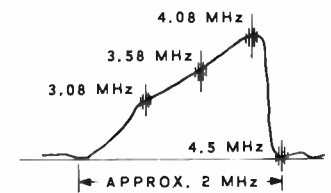

Figure 4-6
- ( ) Adjust L402 for the response curve shown in Figure 4-6. (NOTE: The 3.58 mc marker from the TV Set 3.58 mc oscillator will be present on this response curve.)